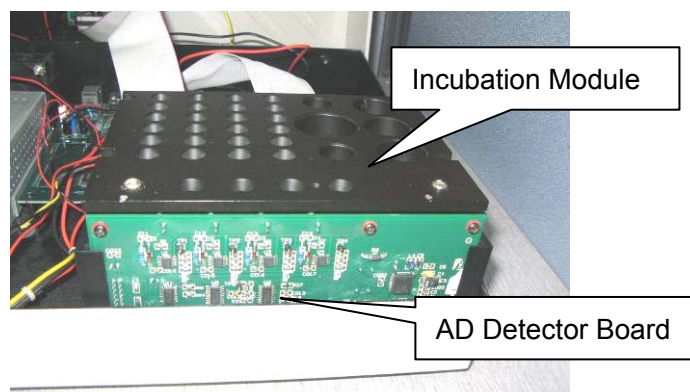

Figure 4-6
1. Switch off the power supply, remove the power cord, and open the upper cover of the analyzer, and incubation module and AD detector board can be seen as shown in Figure 4-6.